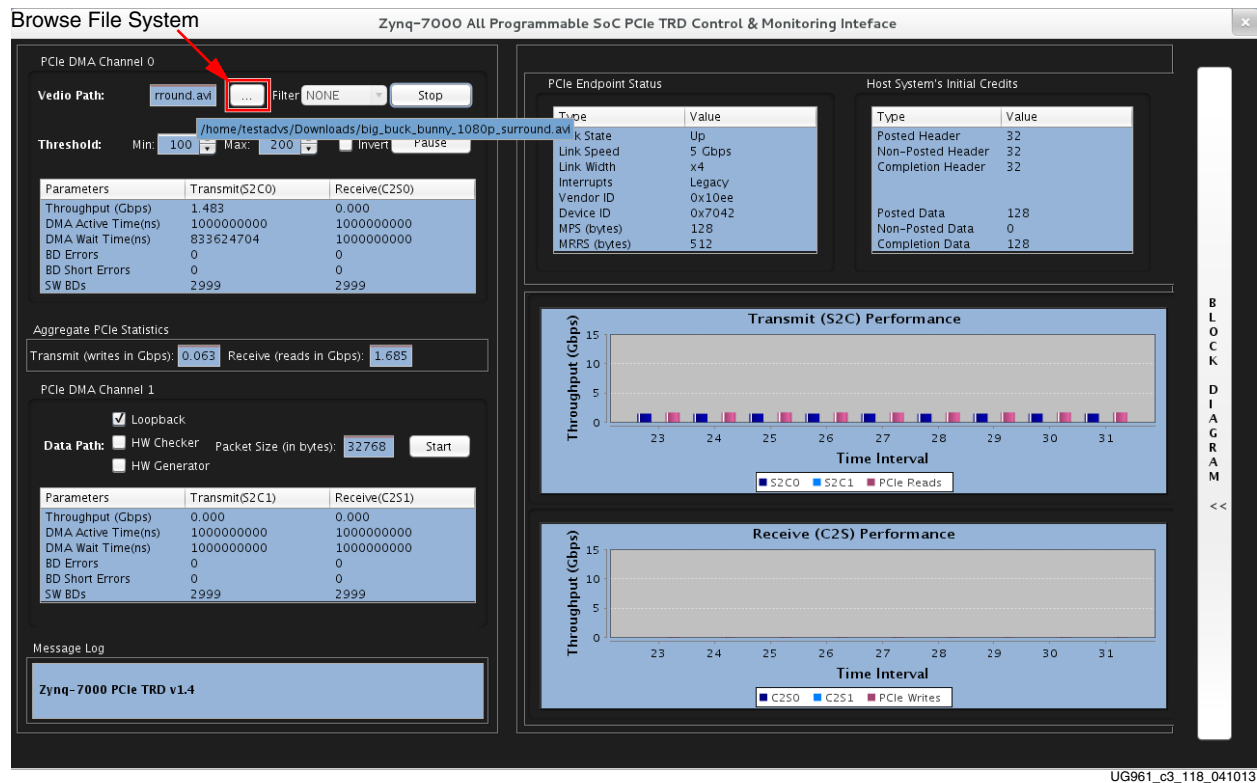

Figure 3-18: Video Mode GUI
9. After installing the Video mode driver as described in step 4, page 25, the control and monitor user Interface pops up as shown in Figure 3-18. The control pane shows control parameters such as a video path browse option and sobel filter type selection.
10. To select a video file present on the host file system, click the browse file system button (Highlighted in Figure 3-18).